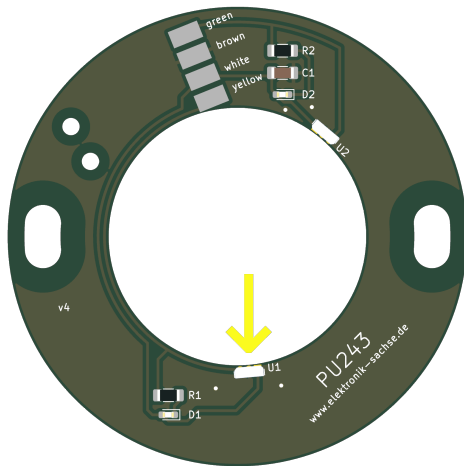

Figure 3 Which sensor to use.
- Use the sensor U1 (see figure 3) for the initial setup.